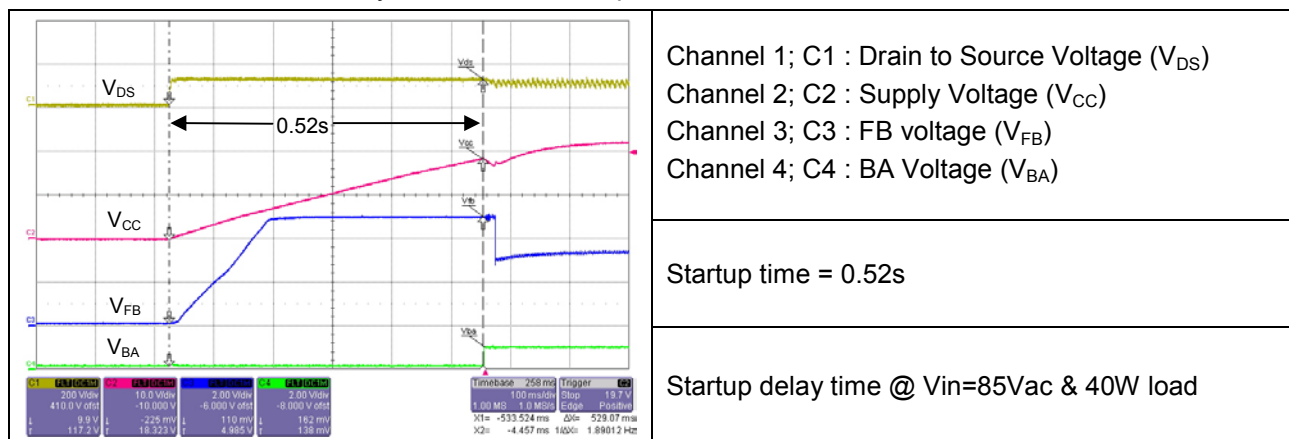

Figure 4 The startup delay time at AC line input voltage of 85Vac
Startup time is counted from applying input voltage to IC turn on. ICE3BRxx65JF has a startup cell which is connected to input bulk capacitor. When there is input voltage, the startup cell will act as a constant current source to charge up the Vcc capacitor and supply energy to the IC. When the Vcc capacitor reaches the Vcc_on threshold 18V, the IC turns on. Then the startup cell is turned off and the Vcc is supplied by the auxiliary winding. Start up time is independent from the AC line input voltage and it can be calculated by the equation (1). Figure 4 shows the start up time of 85Vac line input.
Therefore, the minimum Vcc capacitance can be 7.47 μ F. In order to give more margins, 22 μ F is taken for the design. The startup time $t_{STARTUP}$ is then 0.528s. The measured start up time is 0.52s (Figure 4). A 0.1 μ F filtering capacitor is always needed to add as near as possible to the Vcc pin to filter the high frequency noise. The filter capacitor C7 and the auxiliary series resistor R2 form a R-C filter which can effectively filter